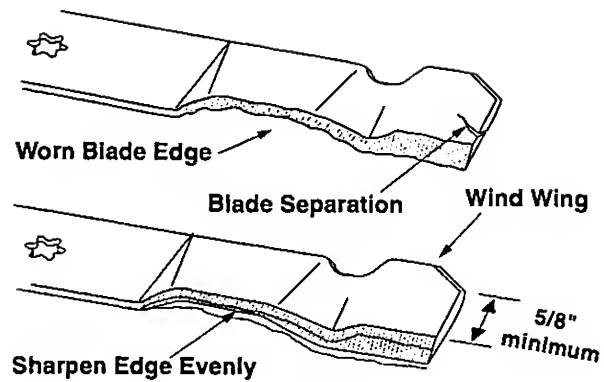

Figure 21
To properly sharpen the cutting blades, remove equal amounts of metal from both ends of the blades along the cutting edges. See Figure 21.
Sharpen the cutting edge straight across, parallel to the trailing edge, at a 25° to 30° angle. See Figure 21.
**IMPORTANT:** If the cutting edge of the blade has already been sharpened to within 5/8" of the wind wing radius, or if any metal separation is present, replace the blades with new ones. See Figure 21.